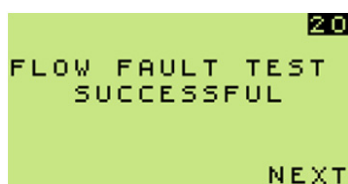

Figure 6: Successful Test
2. If successful, the pump will flow fault and the display will flash **SUCCESSFUL**, as shown in Figure 6: Successful Test.